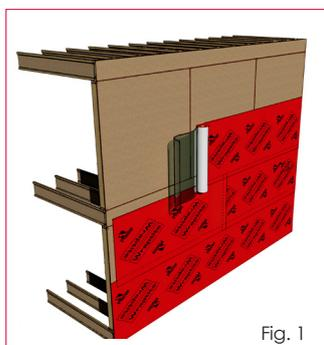

Fig. 1
6. When aligned, gradually remove the release liner while using a hand roller or stiff brush to smooth out any air bubbles, releasing the air from the centre out towards the edge of the Wraprite. (Fig.1)